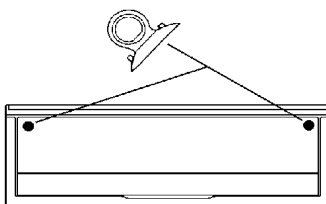

fig. 6c
* Designer Series Models Standard, Metropolitan & Tranquil (Fig. 6c).